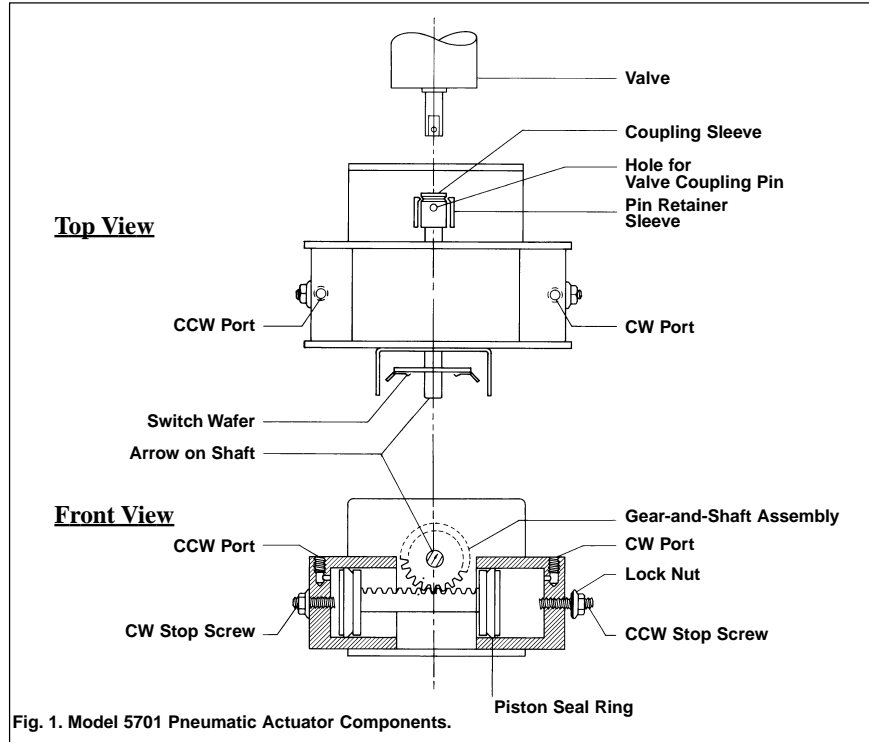
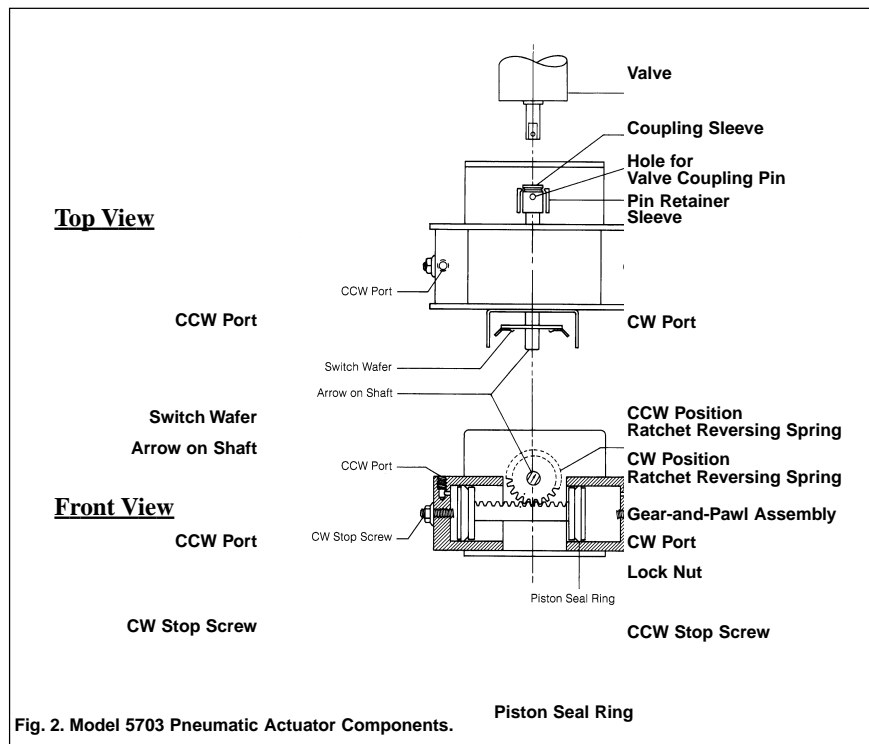

Fig. 1. Model 5701 Pneumatic Actuator Components.
Fig. 2. Model 5703 Pneumatic Actuator Components.
Figure 1 is a schematic of Model 5701. Pressurizing the clockwise (CW) port rotates the valve CW (facing valve shaft end). Pressurizing the counterclockwise (CCW) port rotates the valve CCW. Figures 2 and 3 are schematics of Models 5703 and 5704 respectively. For each Model, pressurizing one port rotates the valve. Venting that port and pressurizing the other port will cock the ratchet for the next step. A ratchet reversing spring is accessible inside the actuator cover and can be set for either CW or CCW rotation. It is set at the factory for CW rotation.
Note that the Model 5701 is for 2-position valves. The coupling pin supplied with the actuator is to be used to pin the valve shaft to the coupling sleeve. This pin slips easily through the hole in the valve shaft. If it does not the hole might be deformed. To clear the hole, use a 3/32" drill or reamer. To mount the valve refer to Figures 1, 2, or 3, and proceed as outlined in Sections 5.1 and 5.2.
The Type 50 Valve Mounting Kit is supplied if the actuator was purchased separately. To mount the valve refer to Figures 1, 2, or 3 and proceed as follows:
To adjust the travel stop(s) refer to Figures 1, 2, or 3 and proceed as follows: